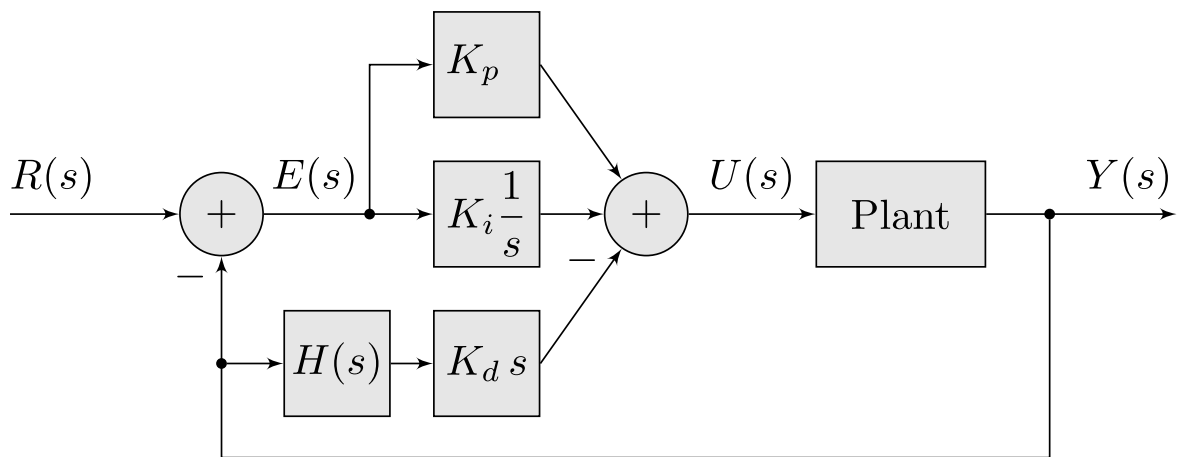

Figure 4: Block diagram of a PID controller with “derivative on measurement”
**Figure 4** shows a block diagram of this new derivative on measurement topology, including the low-pass filter on the derivative.